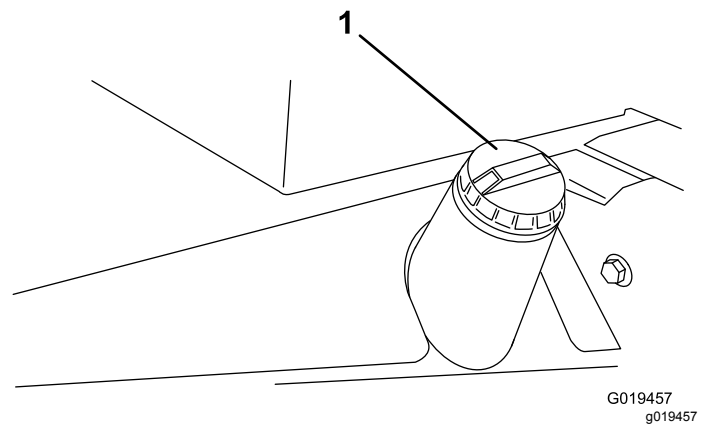

Figure 27
3. Remove the cap from the fuel tank (Figure 27).